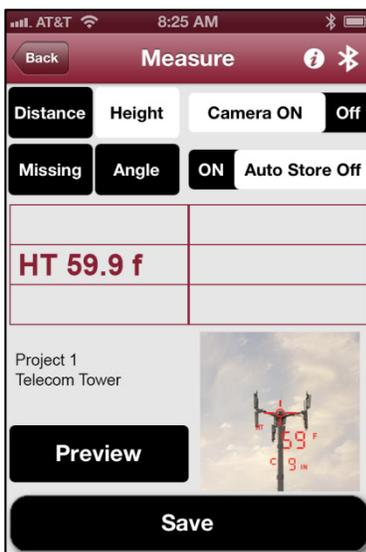

Figure 41
3. Follow the laser-guided three-shot height routine. Upon finishing the third shot of the height routine, the height measurement will display on the Measure screen in the left/center data field (Figure 41).